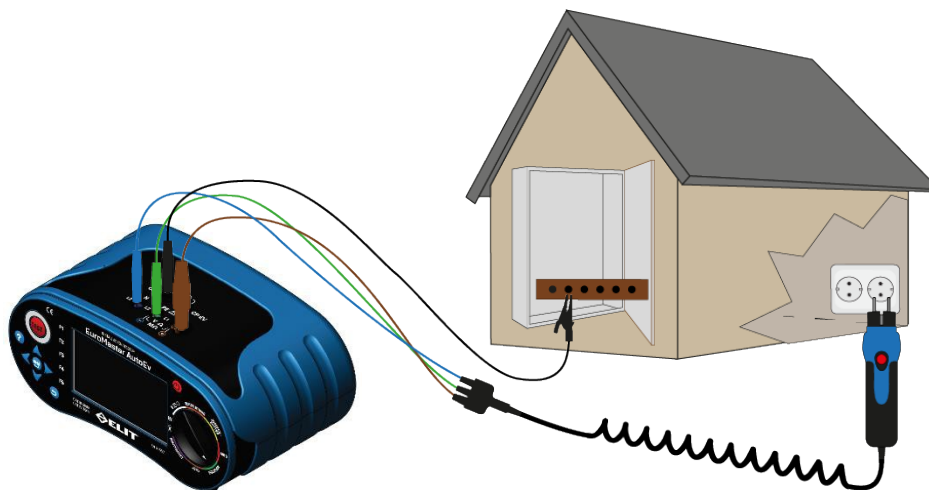

Figure 6.9.1 Low ohm PE-COM connection.
- VI. Connect the measuring position of the terminal as shown in Figure 6.9.1 or 6.9.2.
- IV. Connect the terminal to the measurement position as shown in Figure 6.9.1 or 6.9.2.